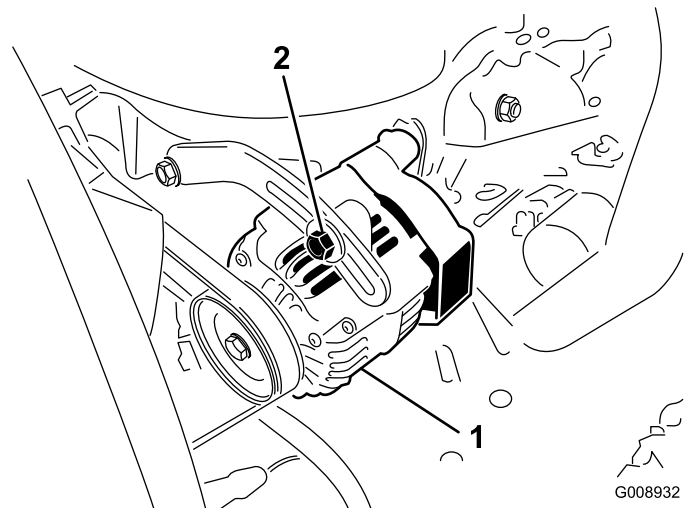

Figure 63
2. If the deflection is not 10 mm (3/8 inch), loosen the alternator mounting bolts (Figure 63).